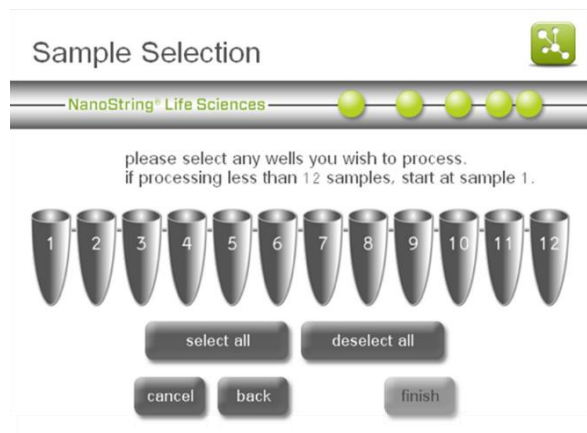

Figure 132: The 'Sample Selection' screen.
3. The 'Sample Selection' screen will appear (**Figure 132**). After selecting the samples to be processed, press **finish**.